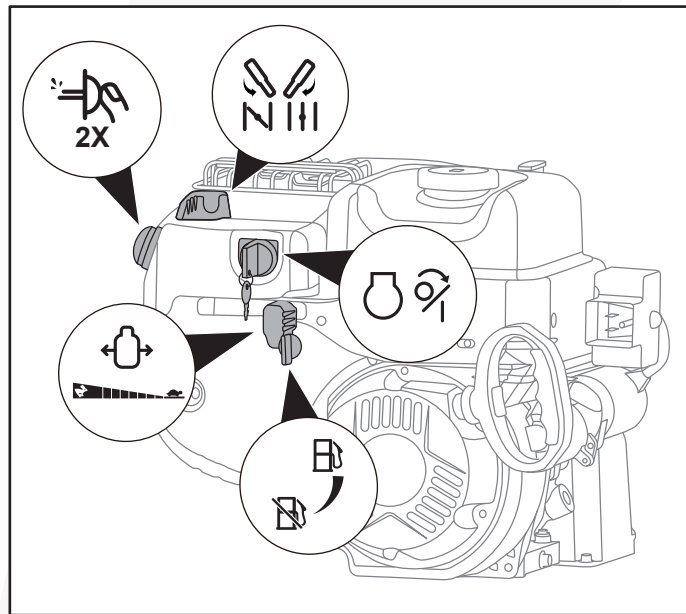

Fig. 11A
1. Move throttle control to the "FAST" position. The engine is to be operated in the "FAST" position. (Fig. 11A)
2. Move the fuel valve to "OPEN" position. (Fig. 11A)
3. Insert the safety key and turn to "I" (ON) position. (Fig. 11A)
4. Move the choke control to the CLOSED position. (Fig. 11A)
5. Push the primer bulb two (2) times. (Fig. 11A)
9. As the engine warms, move the choke control to the OPEN position. (Fig. 11A)